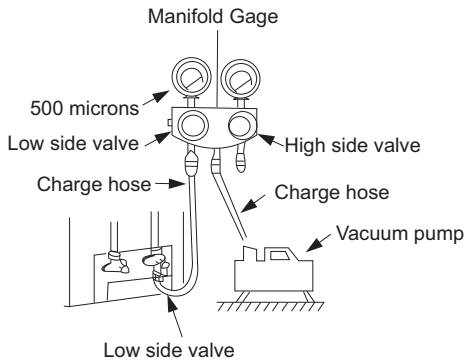

Fig. 13 – Manifold
3. Fully open the low side of manifold gage. (See Fig. 13)